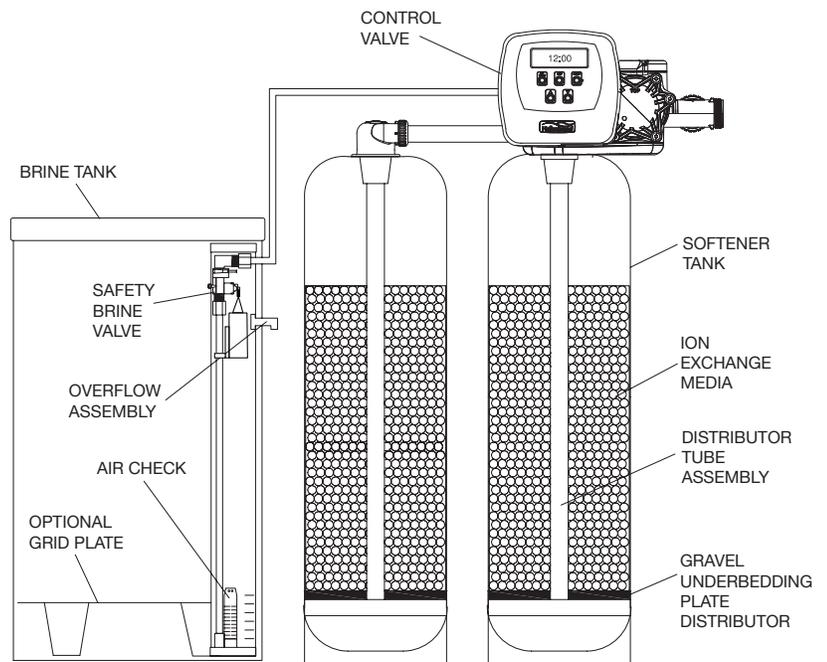

Figure 6b
8. Press the REGEN button until LED display says "REGENERANT DRAW DN". Loosen the brine line from the elbow on control valve in the brine tank. Place finger over the end of the elbow to check for suction. If no suction, see trouble-shooting guide. (See #10, Page 15) If proper suction, reattach brine tube and allow it to draw water down to the bottom of the air check, (figure 6b, page 5).